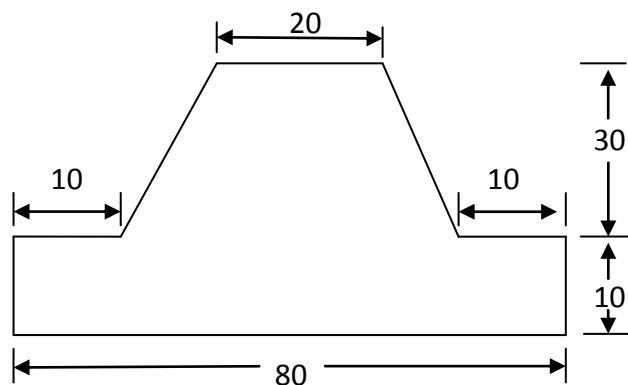

Fig. 1
Q.9 A profile milling operation is to be performed to generate the outline of the part as shown in fig. 1. The part thickness is 15 mm, cutter diameter is 14 mm and cutter speed is 500rpm. Write down the complete APT programme consisting of:- 13